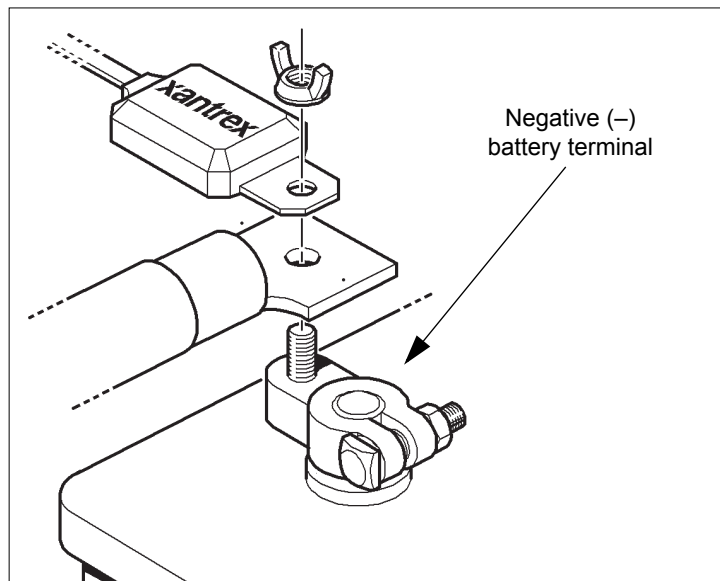

Figure 12 BTS Mounted on the Negative Battery Terminal
6. Mount the sensor directly on top of the ring terminal, as shown in Figure 12, and firmly tighten the terminal nut.